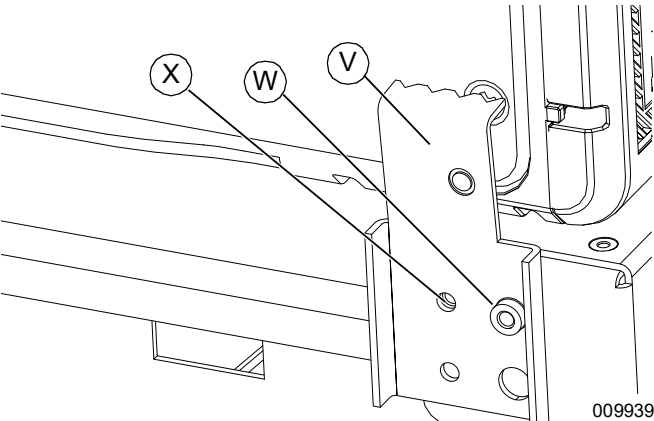

Figure 4-30. Retention Clips (3 of 3)
1. See **Figure 4-30**. Align holes in retention clip (V) with stud (W) and mounting hole (X).